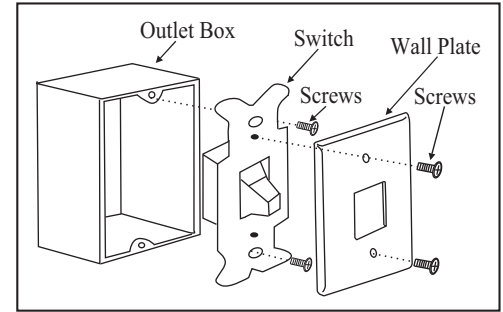

Figure 12
1. Disconnect the power and remove the existing wall plate and switch from the wall junction box. (Figure 12)